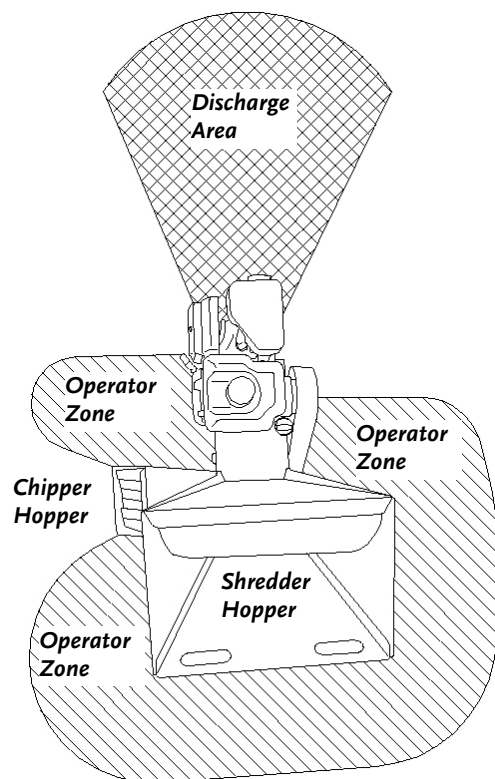

Figure 8
- Always operate the machine from the Operator Zone (see **Figure 8** on page 10). Never pass or stand on the discharge side of the machine when the Engine is running or the Rotor is turning.
- Remove the Fuel Fill Cap and fill the Fuel Tank with fresh, unleaded gas (with a minimum of 85 Octane) to approximately 1" to 1-1/2" below the top of the Fill Neck to allow for Fuel expansion (**Figure 8**). Be careful not to overfill and reinstall the Fuel Fill Cap before starting the Engine. See your Engine Owner's Manual for more detailed information.
- ALWAYS operate the DR CHIPPER W/SHREDDER from the Operator Zones (**Figure 8**).